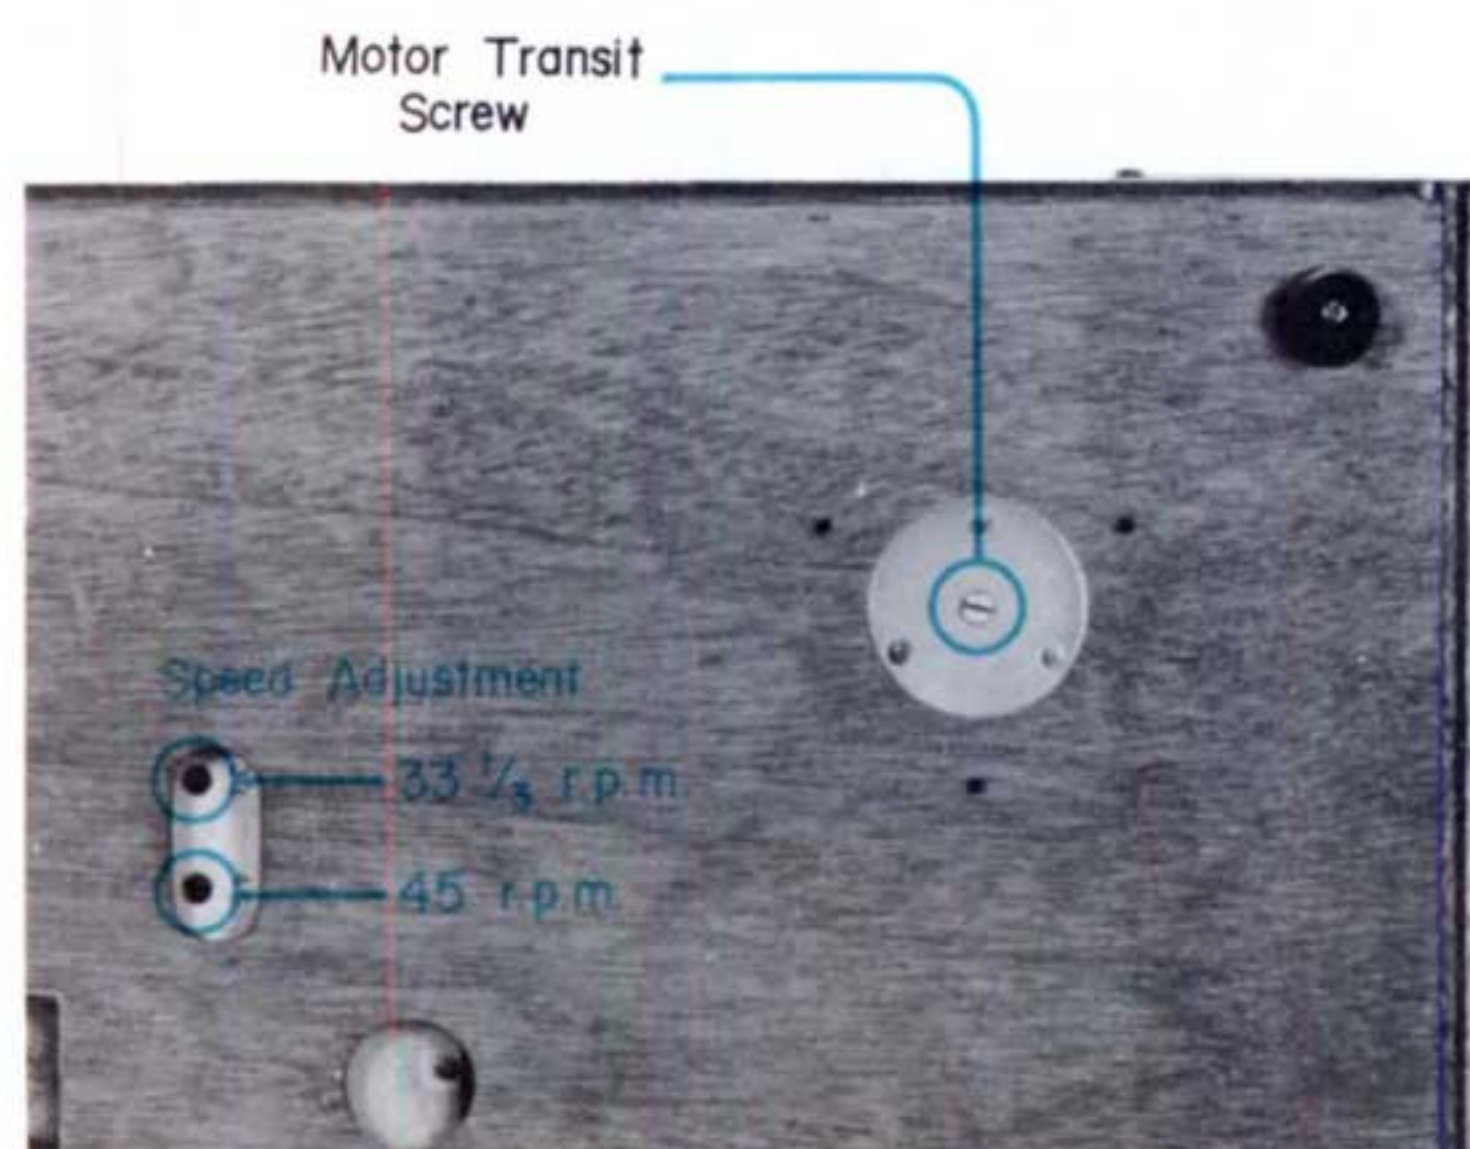

Fig. 2-5 Transit Screw for the Motor
2. Remove the motor transit screw from the bottom of the wooden case as shown in Fig. 2-5 if it has not yet been removed.